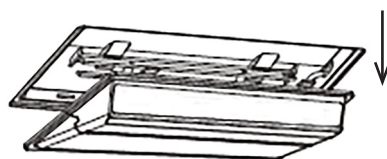

Fig. 11
2. Take off the cover and thermostat downwards in the direction of the arrow (Fig. 11).